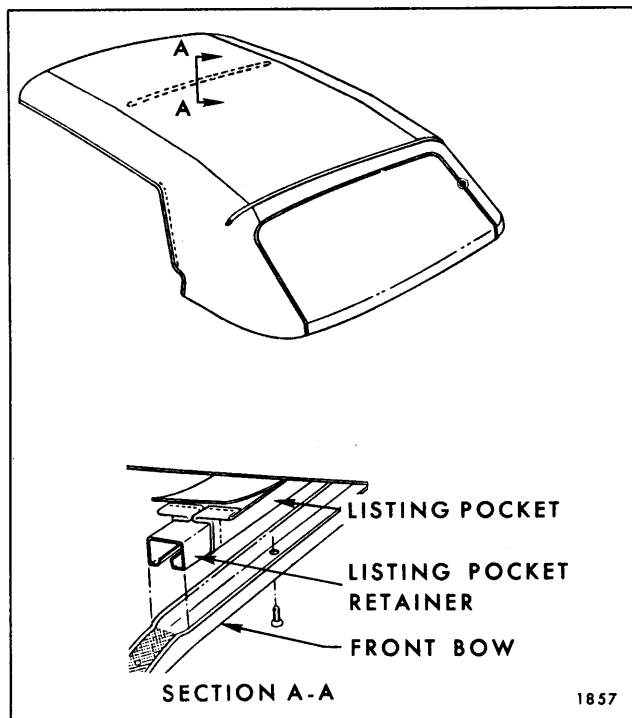

Fig. 13-28—Listing Pocket Retainer
14. At underside of front bow, remove screws securing listing pocket retainer to bow (Fig. 13-28).
12. Install front bow to listing pocket retainer with attaching screws (Fig. 13-28).